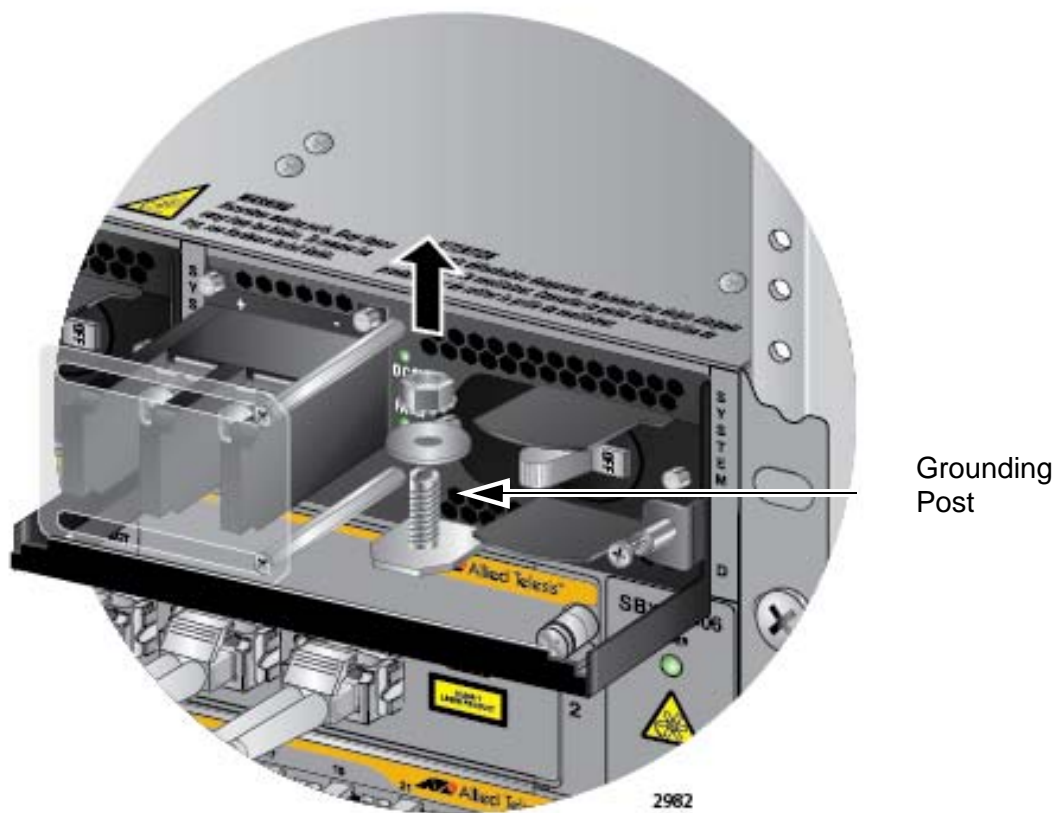

Figure 135. Removing the Nut and Washer from the Grounding Post
3. Use an 8 mm wrench to remove the grounding post nut and washer, shown in Figure 135, from the power supply.
2. Use an 8 mm wrench to remove the grounding post nut and washer, shown in Figure 135 on page 214, from the grounding post on the power supply.